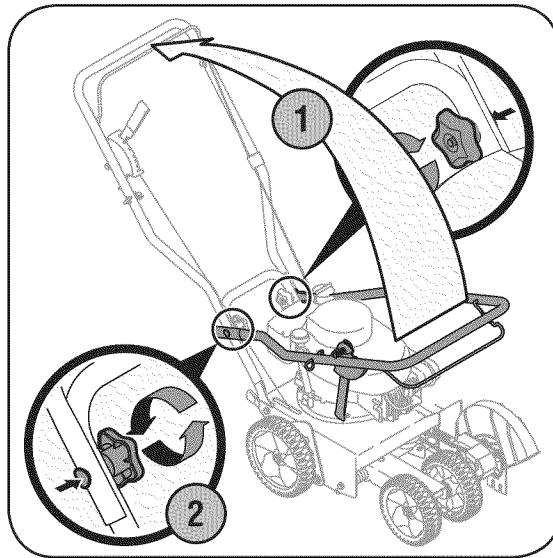

Figure 3-1: Unfold handle and tighten star knobs.
1. Depress the blade control at the top of the upper handle and pivot the upper handle upward until it snaps into place, Figure 3-1.